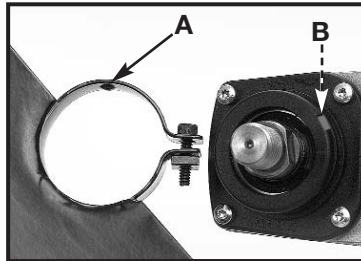

Fig. 3
2. Align the protrusion (A) Fig. 3 on the guard flange with the slot (B) Fig. 3 on the mounting flange of the gear housing cover.